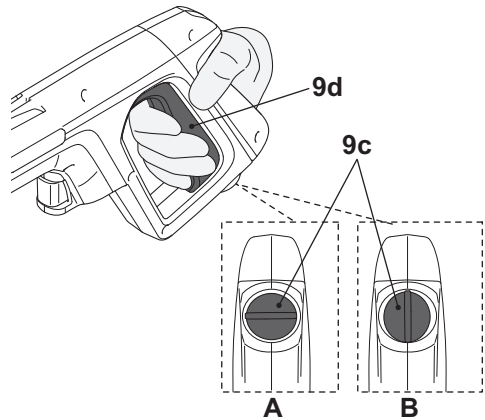

Fig. 21
1. When the trigger lock (9c) is in locked position, the spray gun trigger (9d) is disabled (Fig. 21, A).
1. When the trigger lock (9c) is in unlocked position, the spray gun trigger (9d) is enabled and ready for use (Fig. 21, B).